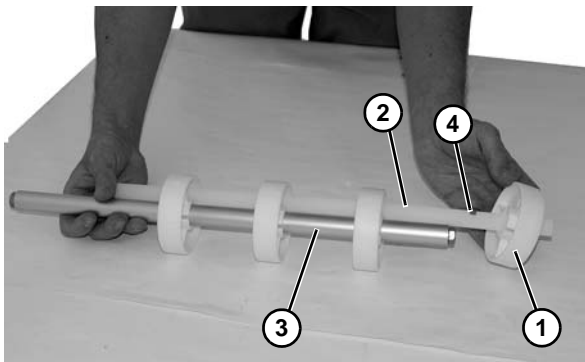

Figure 63
17. Remove rollers (**Figure 63, item 1**) and alignment bar (**Figure 63, item 2**) from shaft (**Figure 63, item 3**). Inspect and replace if worn.
18. Reinstall rollers and alignment bar, with each roller lining up with cutout area (**Figure 63, item 4**) on alignment bar.